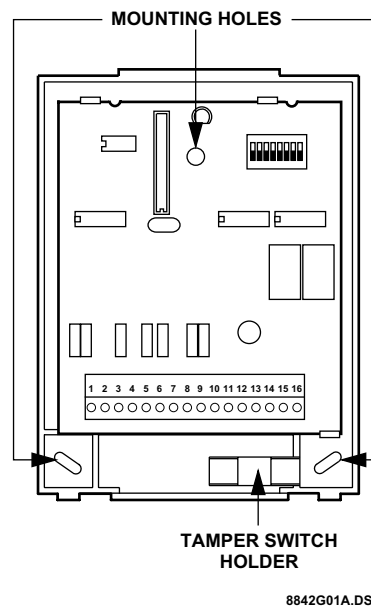

Figure 3. Mounting Holes
3. Place the back plate on the wall and mark the mounting holes (see Figure 3).
3. Place the back plate inside the cabinet at the lower-right corner and mark the mounting holes (see Figure 3).
The tamper switch holder is located at the lower-right side of the back plate (see Figure 3). The plastic cover holds the magnet.